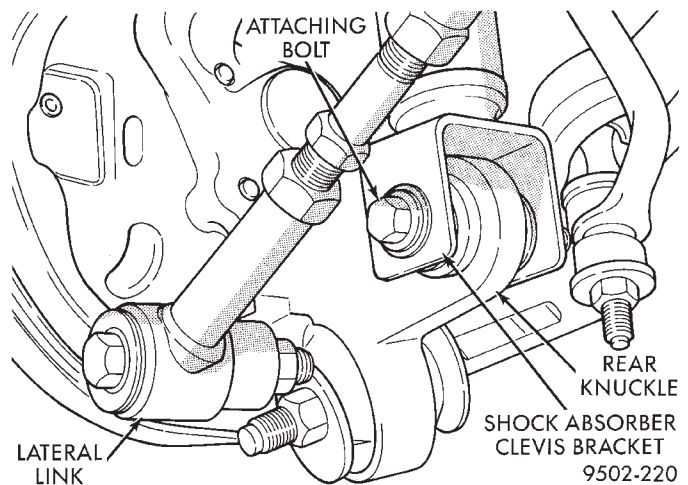

Fig. 34 Shock Absorber To Knuckle Attaching
(1) Raise vehicle on jackstands or centered on a frame contact type hoist. See Hoisting in the Lubrication and Maintenance section of this manual, for the required lifting procedure to be used for this vehicle.
(2) Remove both rear wheel and tire assemblies from the vehicle.
(3) Remove the shock absorber clevis bracket to rear knuckle attaching bolt and nut on both sides of the vehicle (Fig. 34).